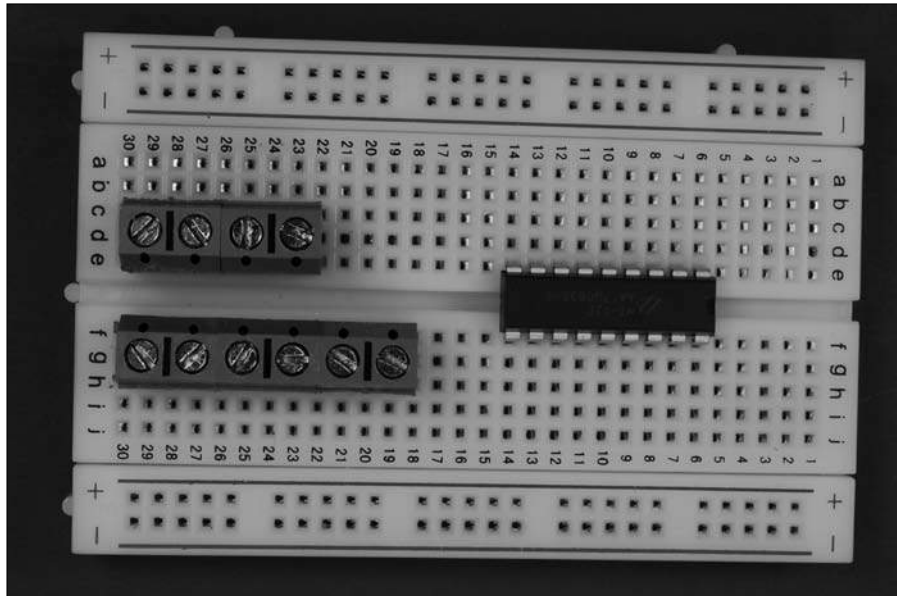

Figure 13-7: Place the IC and terminal blocks on the breadboard.
1. Place HT12E (IC1) and five terminal blocks on the breadboard, as shown in Figure 13-7.